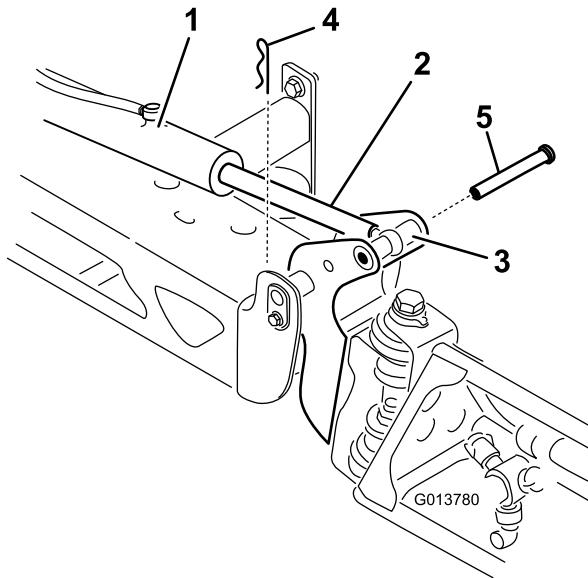

Figure 64
7. While holding the boom, insert the pin through both boom pivot and actuator rod (Figure 64).